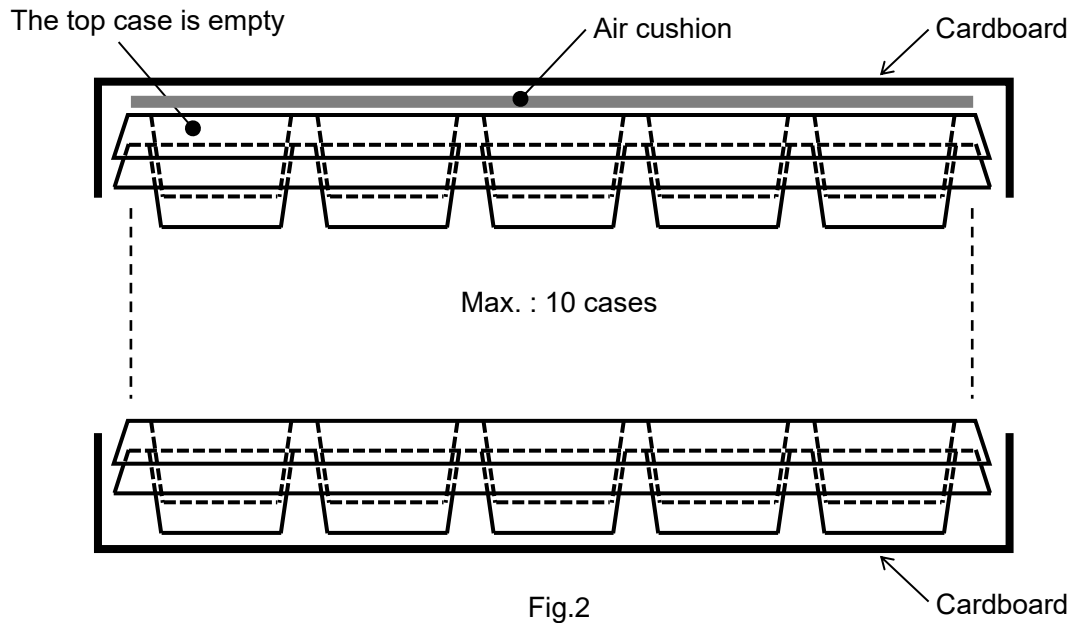

Fig.2
- (1) Put RD4 (Max. : 30 pcs.) in the packing case.
- (2) Pile up 10 cases (the top case is empty), cover top and bottom with the cardboard and fix 2 places with rubber bands. (Refer to Fig.2)